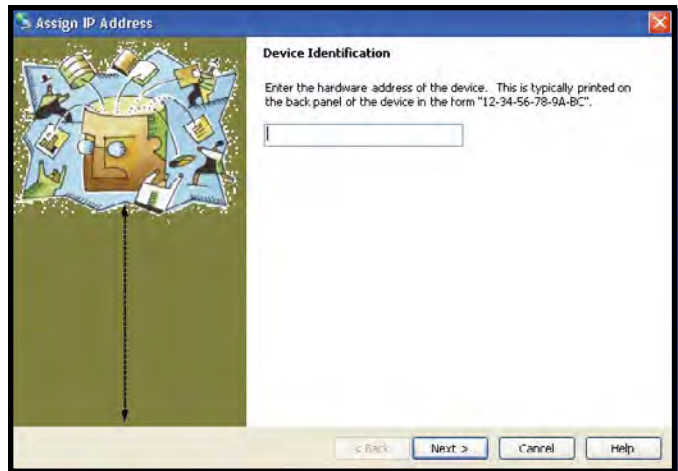

Figure 87. Assign IP Address, Device Identification Window
- V. Click on the “Assign IP” button located at the top of the window. The “Assign IP Address” window will open (see Figure 87).